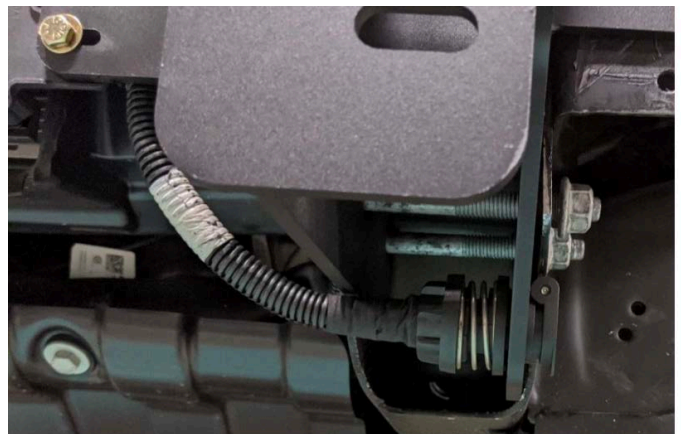

Figure 24
23. If equipped, install the engine heater plug into the driver side bracket (22226) in a manner opposite of the removal. Figure 24.